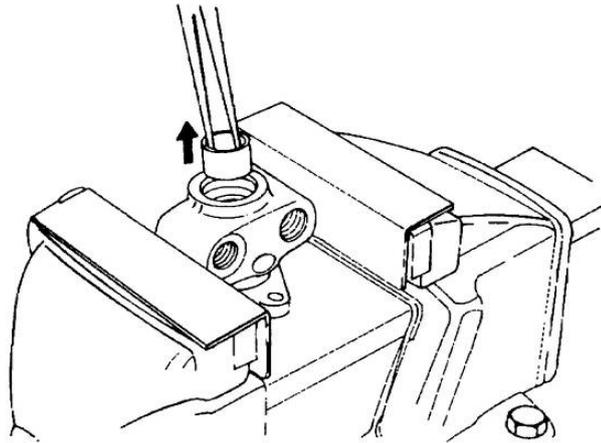

Figure 133 Removal of the Piston
- e. Lift out the piston spring and, using long-nose pliers, remove the piston (Figure 133).